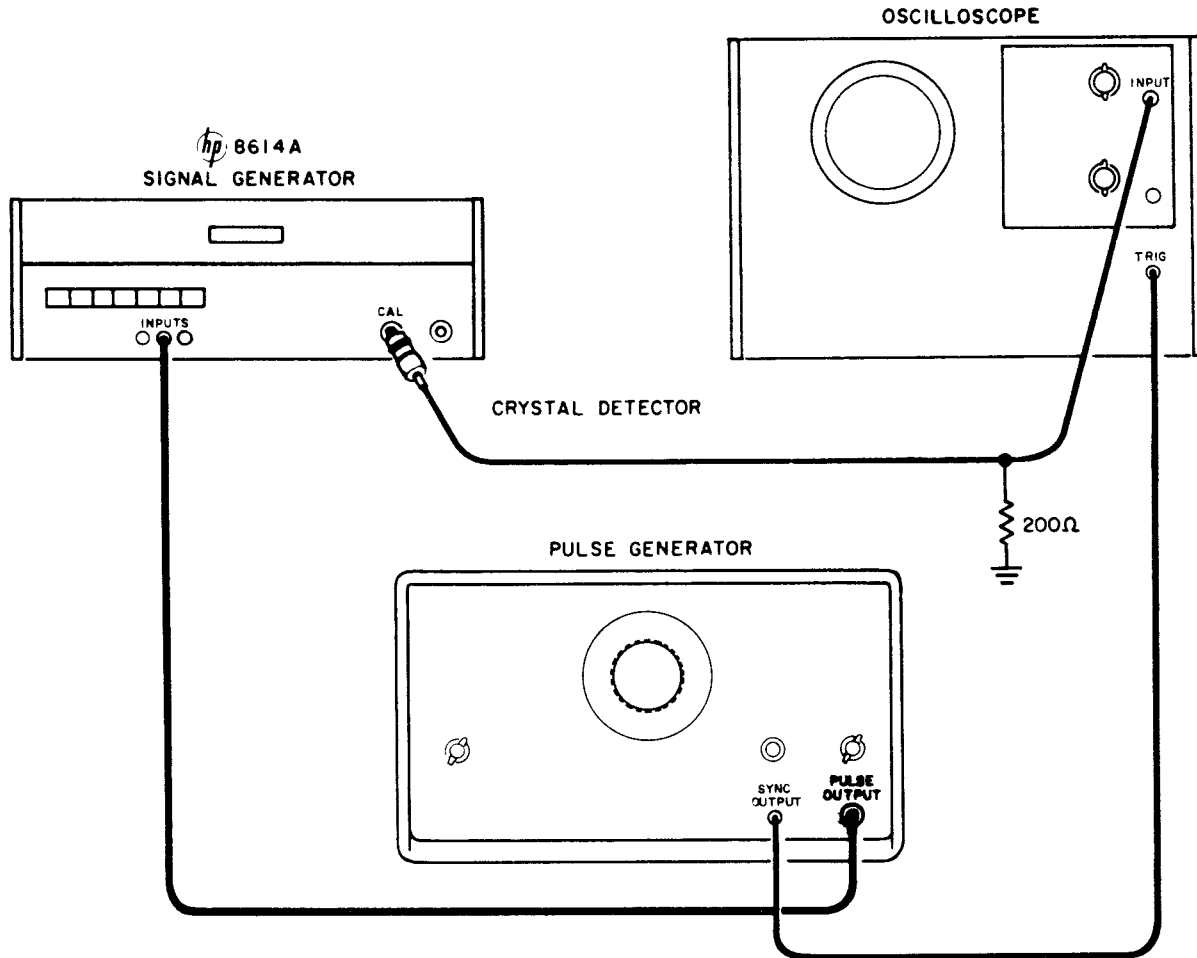
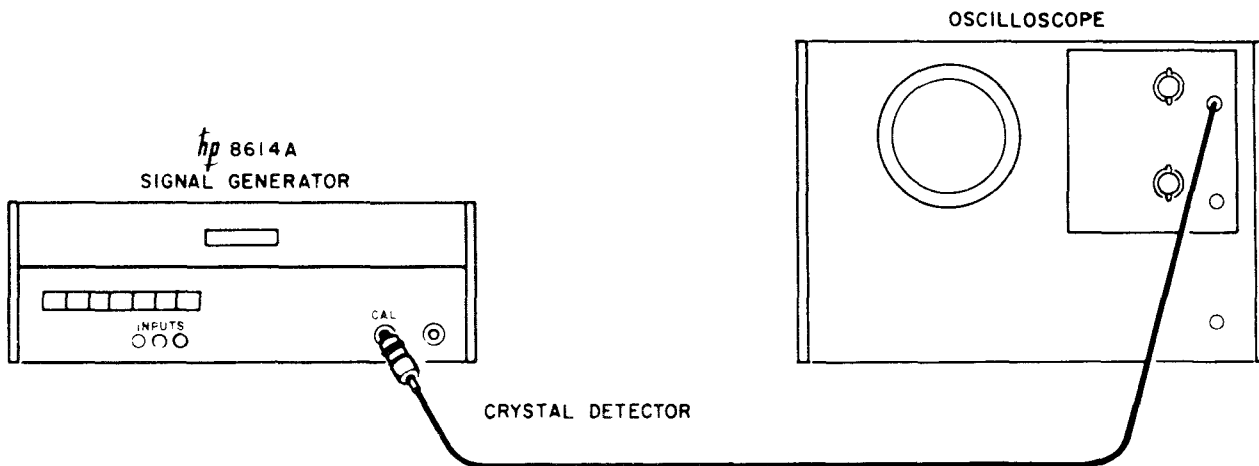

Figure 5-2. External Pulse Check
Figure 5-3. Internal Square-Wave Check
a. Connect instruments as shown in Figure 5-2.
a. Connect instruments as shown in Figure 5-3 (see Note, paragraph 5-14, step a).
- ATTENUATION(DB) 0 DB
e. To check external synchronization, connect equipment as shown in Figure 5-2.